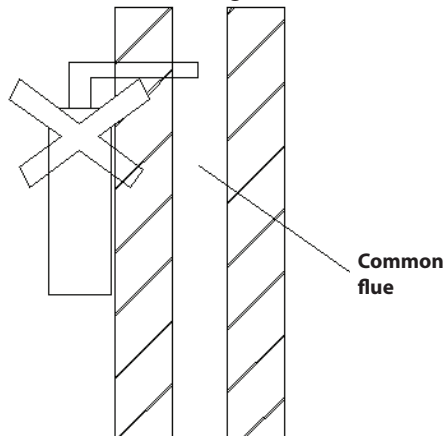

Figure 5.2
- The flue of the heater cannot be connected to a common flue (Figure 5.2).